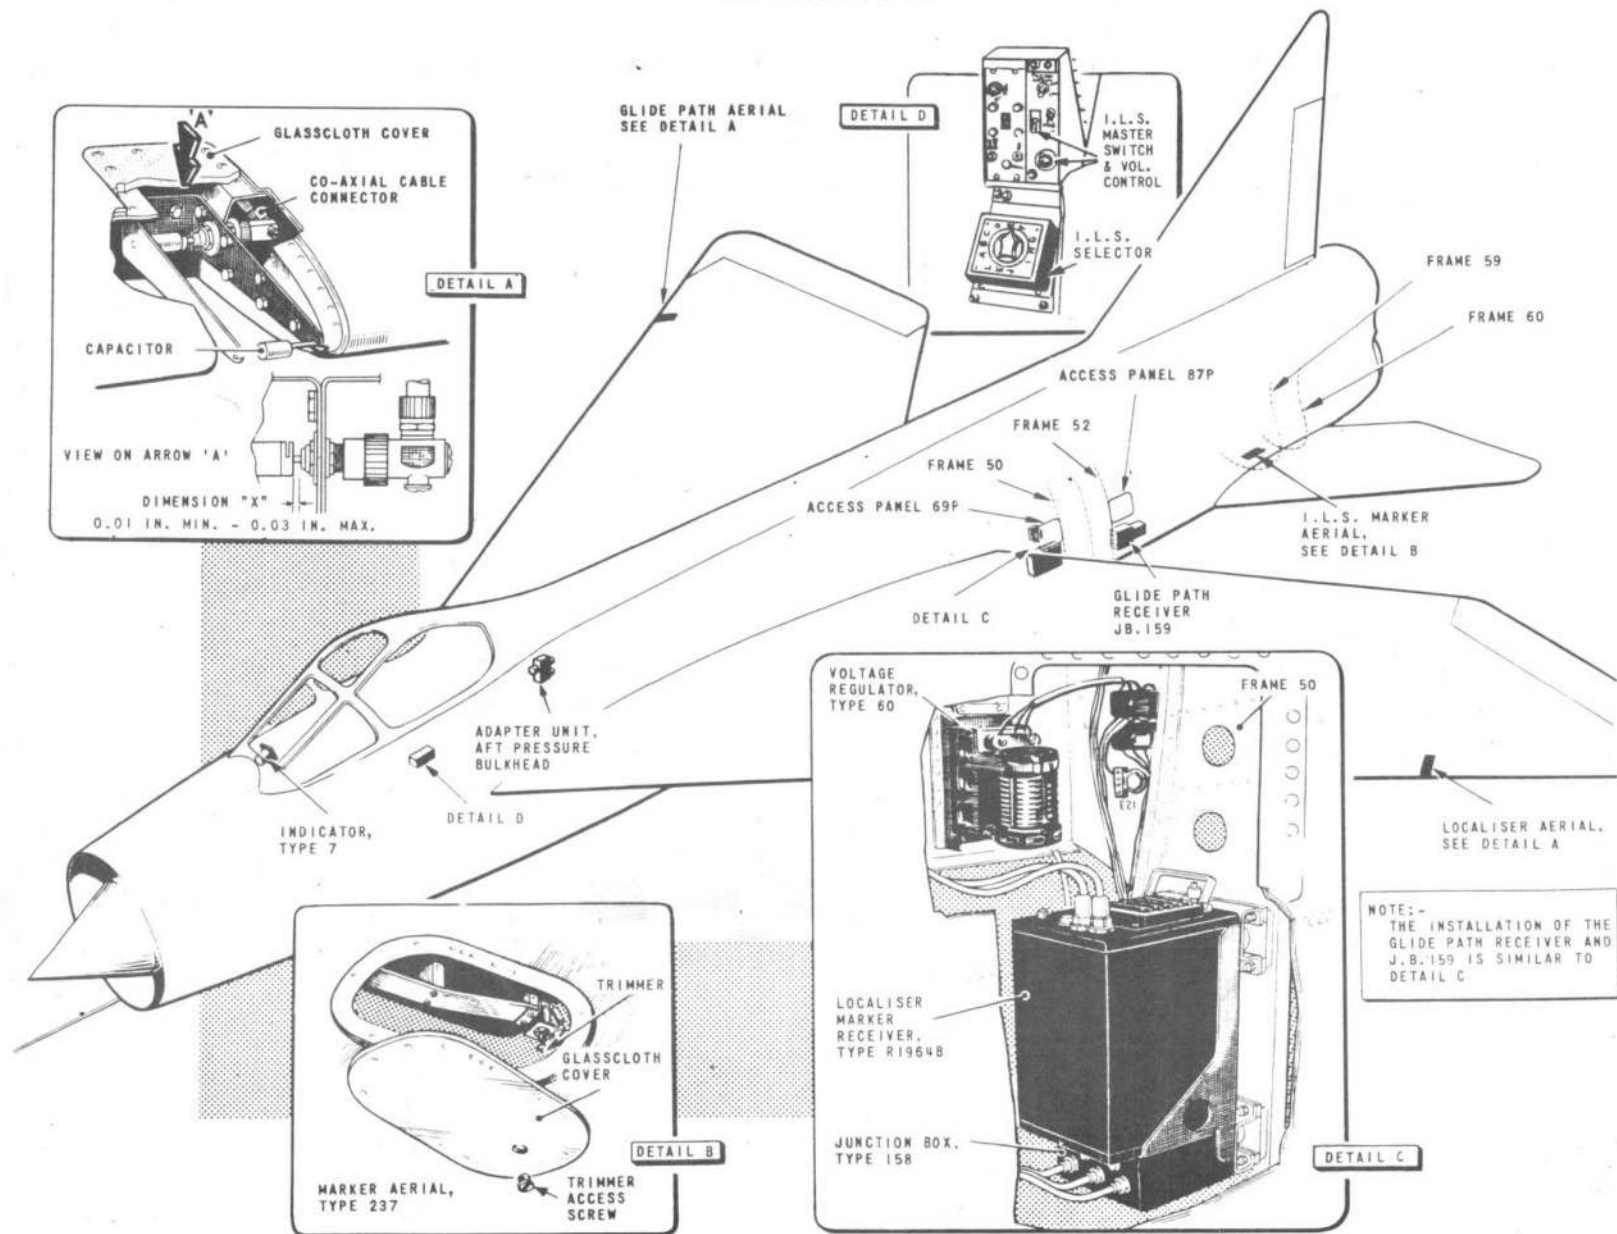

FIG. 1. I.L.S. INSTALLATION
13. To ensure maximum efficiency, provision is made for tuning the aerial in situ to its marker frequency of 75 MHz by means of a trimmer illustrated on fig.1.